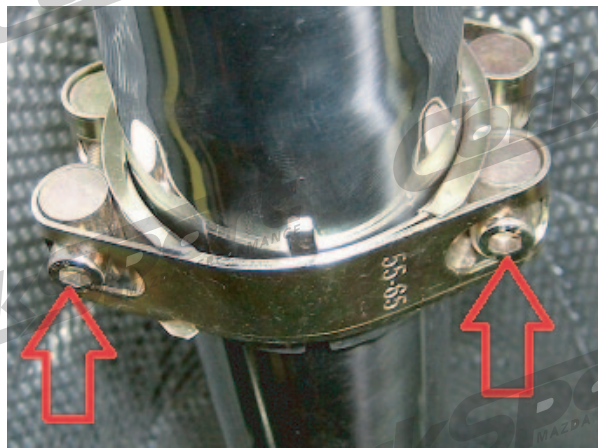

Figure 2F
G) Now that everything is loosely connected, start at the stock cat section of the exhaust and tighten all of the hardware to secure the exhaust. Tighten the two (2) racepipe bolts using a 17mm long socket and ratcheting wrench. There is no torque value, as these are spring loaded, but a rule of thumb is to leave a coil width between coils to allow the exhaust to adjust to engine movement.
H) Tighten the slip fit clamp over the front connection using a 5mm allen head (shown in **Figure 2F**). Torque both sides evenly to 25 ft lbs.